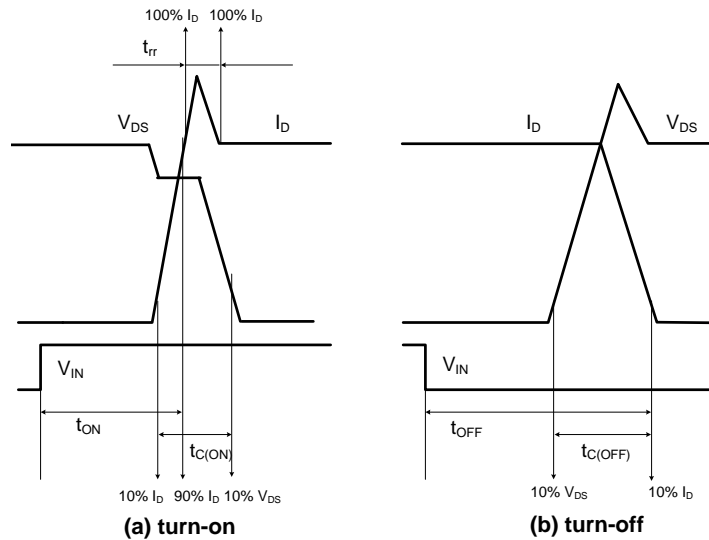

Figure 4. Switching Time Definition
- t_{ON} and t_{OFF} include the propagation delay of the internal drive IC. t_{C(ON)} and t_{C(OFF)} are the switching time of MOSFET itself under the given gate driving condition internally. For the detailed information, please see Figure 4.